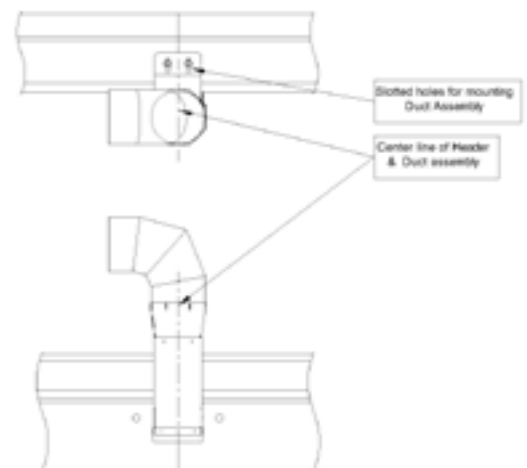

Figure 5: Heater & Ducting Components
8. Attach center duct assembly to holes in center of rails loosely with 1/4"-20 x 7/8" bolts and 1/4"-20 locking nuts provided. (Figure 5)